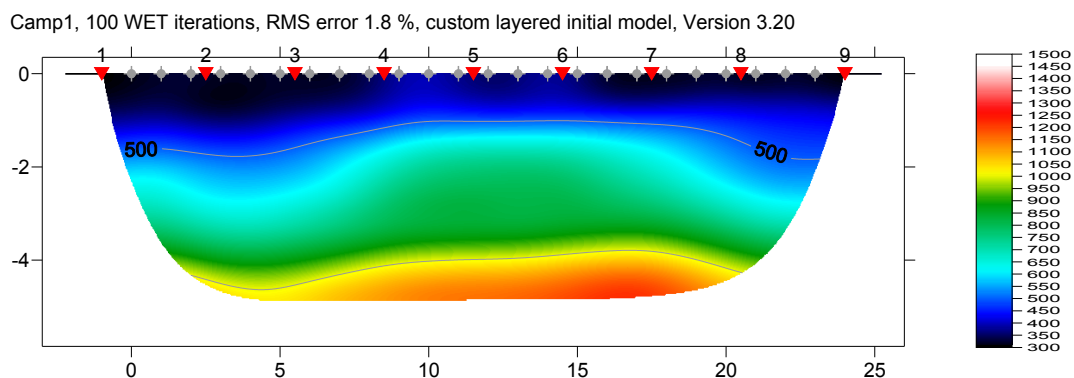

Fig. 6 : WET inversion of CAMP1, with our custom-built layer-based initial model LAYERS.GRD
3. Click *button Accept parameters* and *button Start tomography processing*, to redo WET inversion, with our layered initial model. Obtain output as shown below, in Fig. 6 :
Fig. 7 : Match between grey picked traveltime curves and dashed blue modeled curves, for LAYERS.GRD initial model (Fig. 6). The RMS errors is 7.2%, see \RAY32\CAMP1\LAYERS\LAYERS.FIT .
Both Fig. 2 and Fig. 6 show a similar RMS error after 100 WET iterations (1.6% vs. 1.8%). But Fig. 2 is probably more realistic, since it is based on smooth 1D-gradient initial model GRADIENT.GRD (Fig. 1) with smaller initial RMS error of 3.4% (Fig. 8).
Our custom-built LAYERS.GRD layered initial model (Fig. 6) shows an initial RMS error of 7.2% (Fig. 7), twice as large as for default GRADIENT.GRD (Fig. 8). Obviously Fig. 8 shows a better initial match than Fig. 7, between picked and modeled traveltime curves.